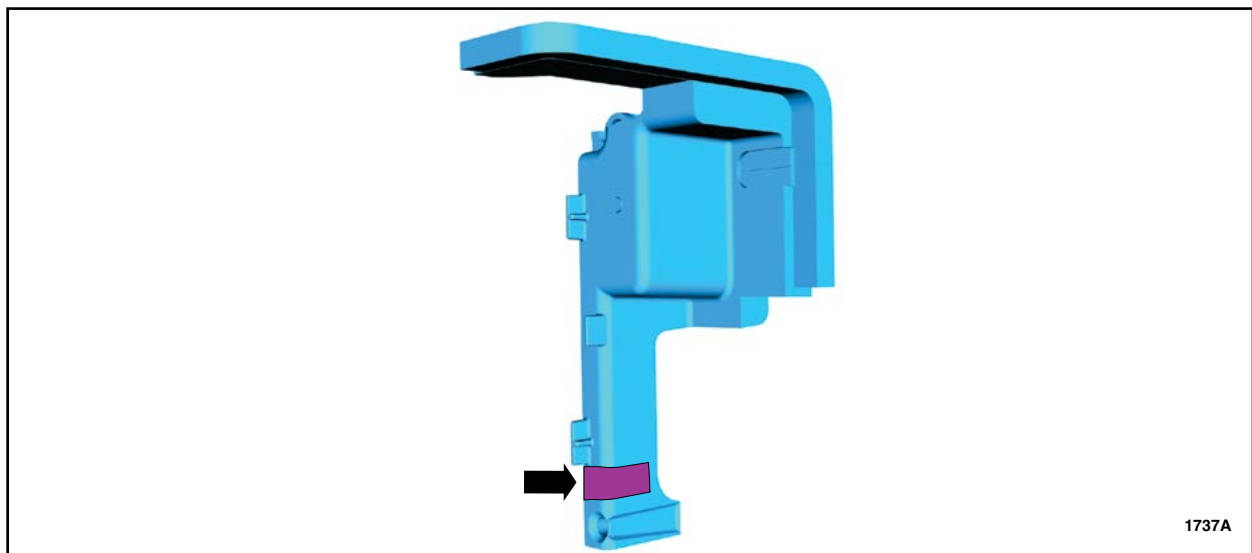

FIGURE 5
9. Apply supplied foam tape to the *new* shield in the highlighted area. See Figure 5.